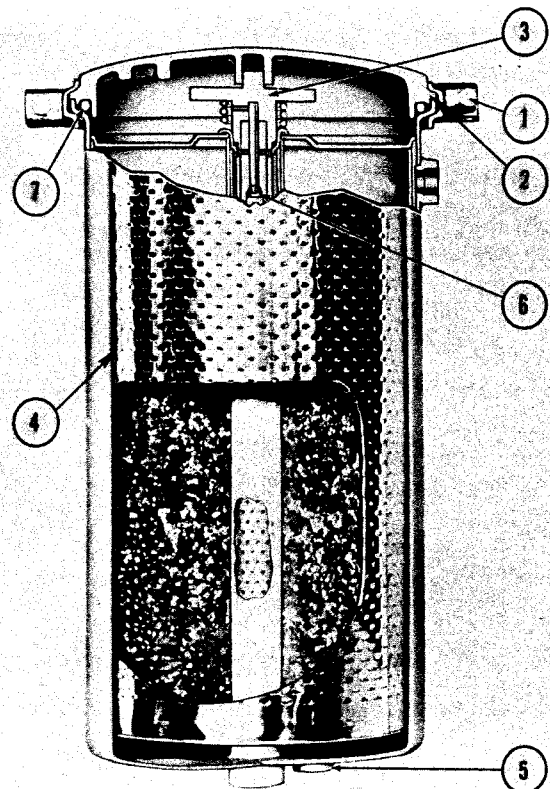

Fig. 2-8, (V41908). By-pass filter cross section
1. Remove drain plug (5, Fig. 2-8) from bottom of housing and drain oil.
2. Remove clamping ring capscrew (1) and lift off cover.
3. Unscrew upper support hold-down assembly (3); lift out element (4) and hold-down assembly. Discard element.